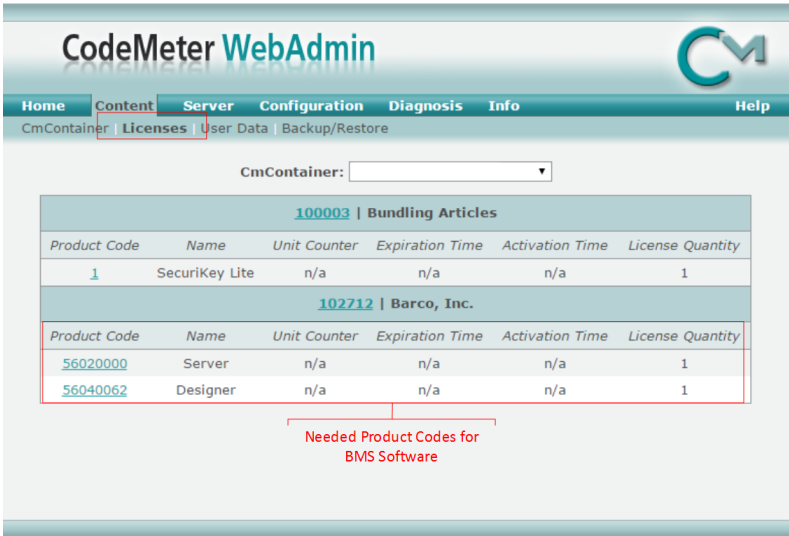

Figure 2.6. WebAdmin License page for XDG-100 licenses
5. Navigate to the License pane under Content. (See Figure 2.6, “WebAdmin License page for XDG-100 licenses”.)